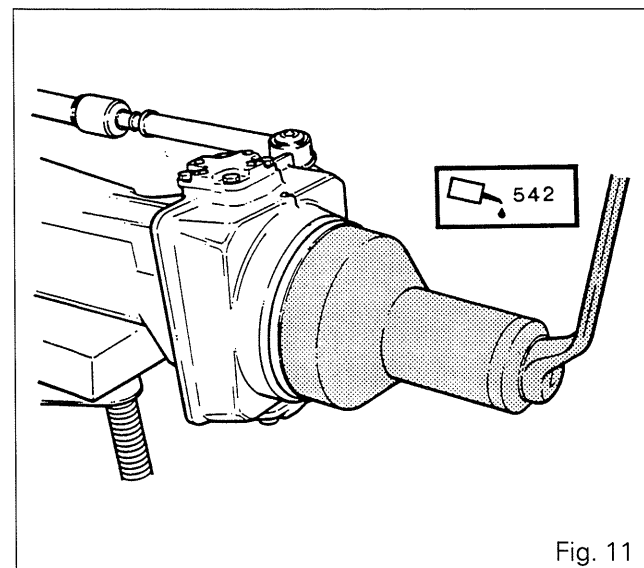

Fig. 11
- 73. Coat the outside diameter of seal (45) with Loctite 542 (Fig. 11) and oil the lips. Fit the seal (Fig. 11) using the tool 3378039M1 and the rings :
**Note: The tool A ( 5I ) must be screwed fully home . The oil seal (45) does not rest against the shoulder of the housing. The ring determines the insertion length. Coat nut D ( 5I ) and bearing plane with graphite grease.**